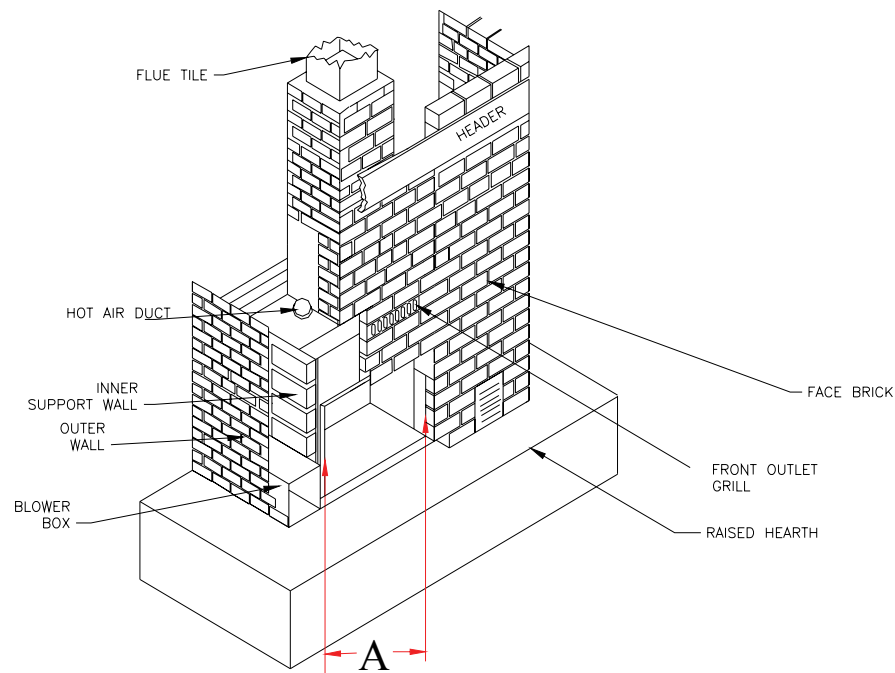

FIGURE 6: FIREPLACE OPENING
2. Ensure the brick edges or metal housing of the firebox chamber are in good condition and of uniform shape. Any damage or broken brick should be replaced and allowed to properly set and cure before a fireplace door system is installed. Refer to FIGURE 6 below where measurement (A) is taken. It is critical that this part of the opening be in good shape as the door system will use this opening to “lock” the door frame into the fireplace. Refer to measurement (A) in FIGURE 6 and measure the opening of the fireplace. Write this measurement down.